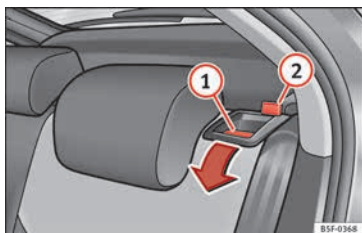

Fig. 149 Backrest release lever.
- Press the release lever » **Fig. 149 ①** in the direction of the arrow.
- Raise the backrest until it engages in its upright position » **△**. The red marking on the tab » **Fig. 149 ②** should no longer be visible when the backrest is properly secured.